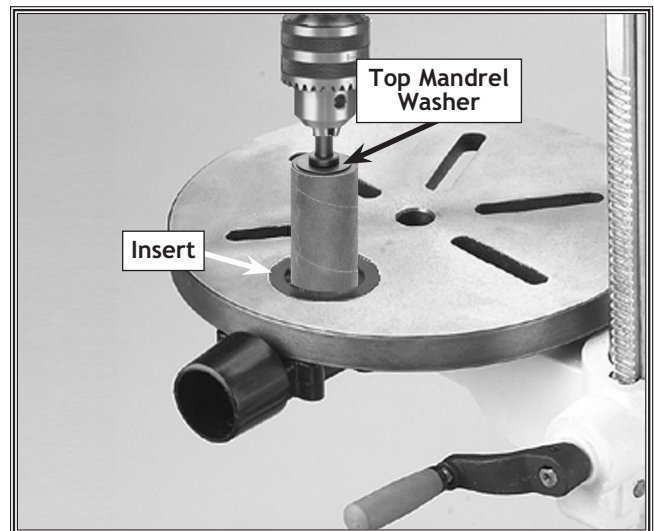

Figure 47. Sanding drum installed.
10. Set the chosen table insert into the pocket in the top of the table, insert the sanding drum mandrel into the chuck, then tighten chuck (see **Figure 47**).